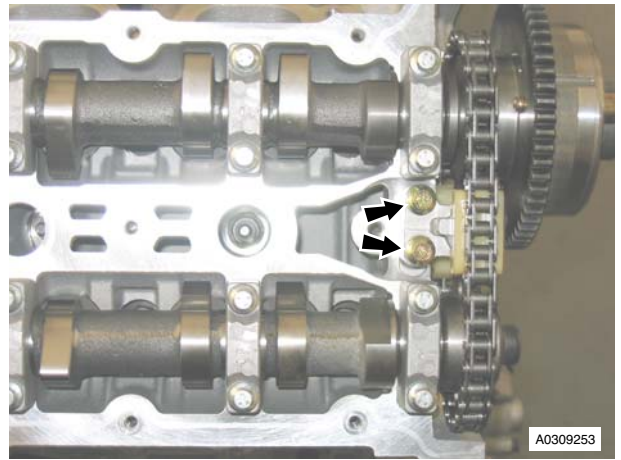

Figure 5
17. Remove the two bolts that attach the right secondary timing chain tensioner to the cylinder head (refer to Figure 5).